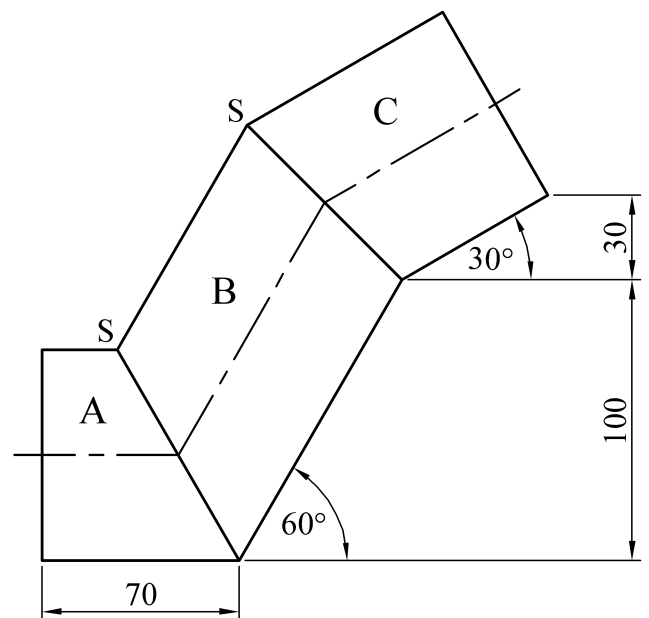

Fig. 2
2. Fig. 2 shows the elevation of three cylindrical pipes of 75mm diameter which form a bend. The axes of the pipes are in the same plane.